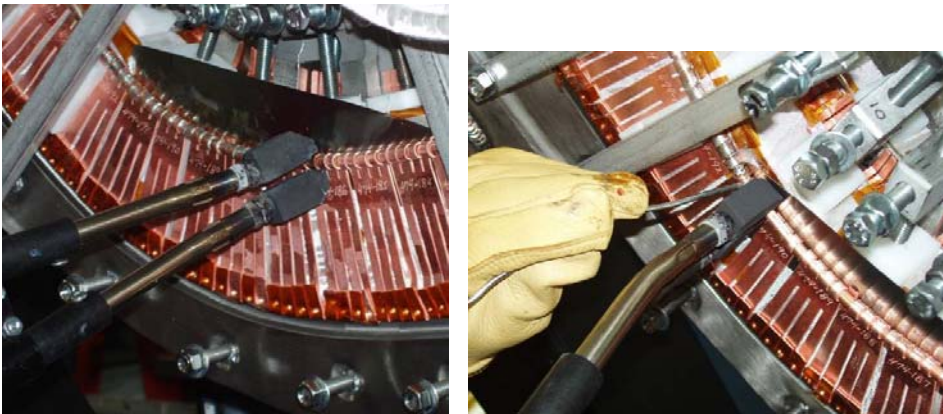

Figure 25- Soldering Cooling Tube (photos a & b)
6.32.4.4 Place the carbon tongs onto the formed chill plate fingers. **Figure 25- Soldering Cooling Tube (photos a & b)**
- 6.32.4.6 Place the center toggle switch to “LOW”, and using the carbon tongs heat the chill plate/cooling tube assembly. Once at temperature, feed the rosin core solder between the tube and copper fingers. [See **Figure 25- Soldering Cooling Tube (photos a & b)**]